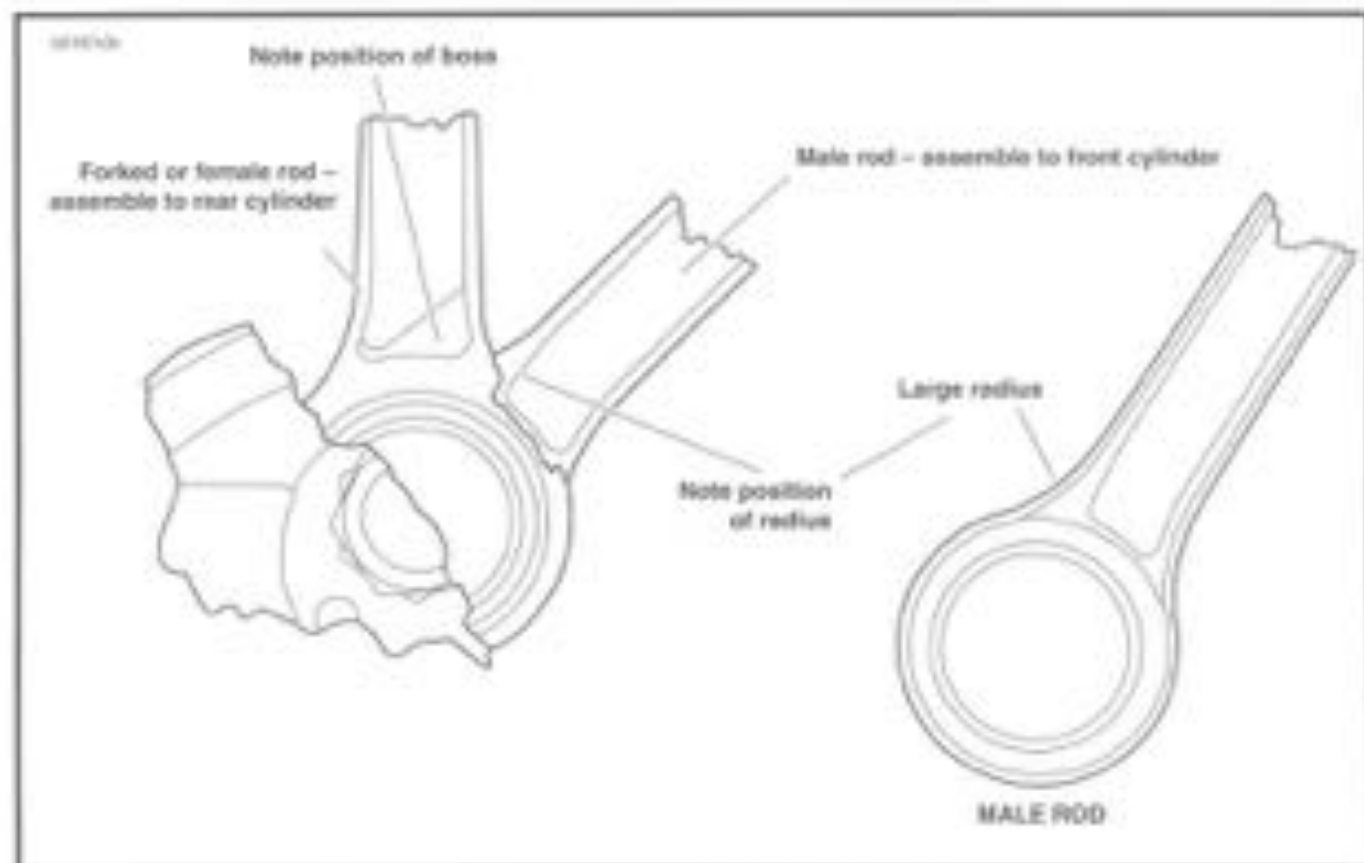

Figure 3-91. Installing Connecting Rods
3. Assemble crank pin (6) to gear-side flywheel (3) making sure that key (7) is in proper position. Tighten crank pin nut. See ENGINE, SPECIFICATIONS for proper torque.
5. See Figure 3-91. Slip bearings, and connecting rods over crank pin. Assemble angular boss of the female rod adjacent to large radius side of the male rod as shown. The side of the male rod with the larger radius is narrower in the area where it fits between the forks of the female rod.